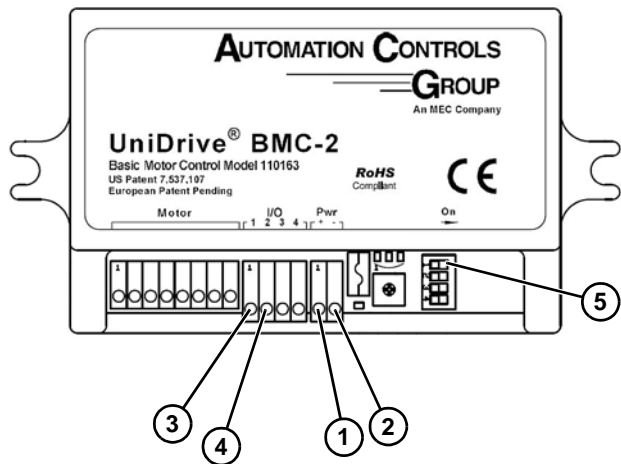

Figure 41
Wire +24 DC (Figure 41, item 1) and DC ground (Figure 41, item 2) to the driver's power plug.
To run both motors with the belts traveling in the same direction wire an PNP input to Smart input 1 (Figure 41, item 3) on one drive and Smart input 2 (Figure 41, item 4) on the other drive.
- One time, switch state of dip switch 1 (Figure 41, item 5) on the driver board. Dip Switches are only read at start up. After a change is made, cycle power to the unit.